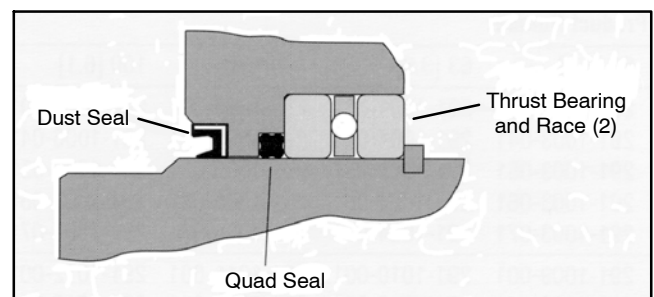

Figure 77
1. Install the quad seal (Fig. 77):
8. Put the thrust bearing and races into the housing. The thrust bearing goes between the two races (Fig. 77).